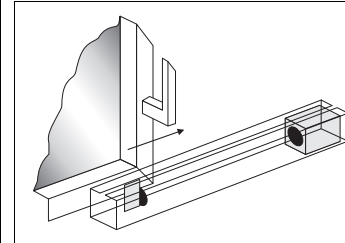

Fig. 4: Protection example for bypassing a magnetic safety switch in compliance with EN 1088
- they are difficult for operators to access when the guard is open (Fig. 4),